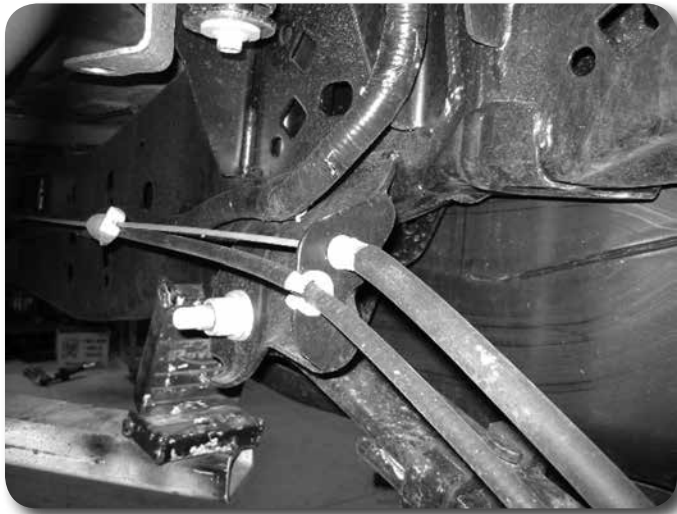

Figure 3
4. Compress the retaining tabs and remove the driver's side cable from the spring hanger **Figure 3**. It will be relocated and reconnected later.